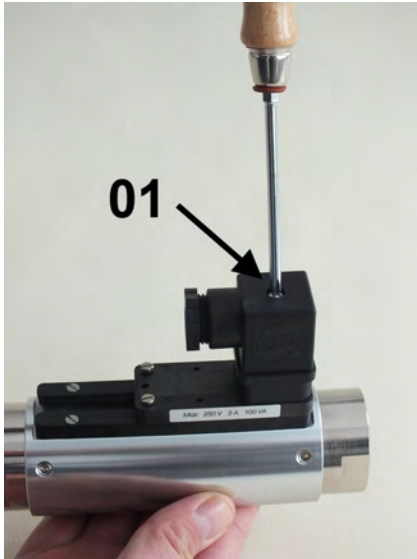

Fig. 52: Loosen female socket
1. ➤ Loosen the fixing screw of the female socket (Fig. 52/1) with a flat-bladed screwdriver.